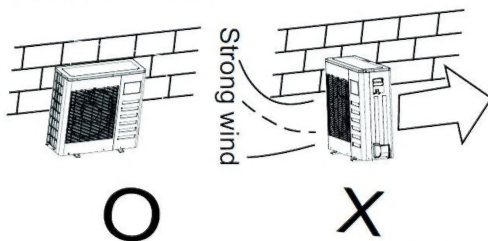

Fig.6-1
- In the case that the installation place is exposed to strong wind such as a seaside, make sure the fan operating properly by putting the unit lengthwise along the wall or using a dust or shield.(refer to Fig.6-1)